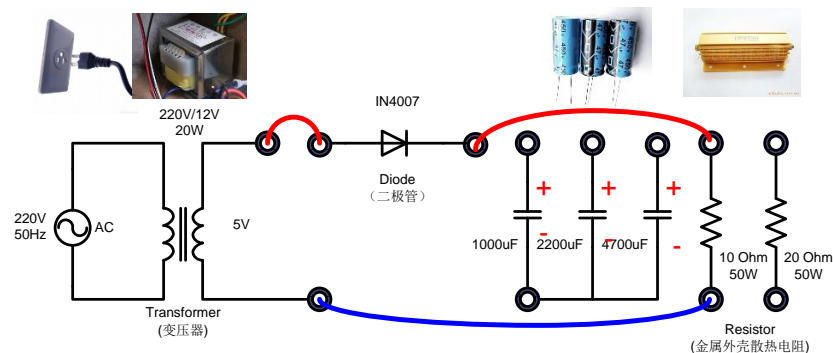

Figure 6: Half-wave rectifier with resistor load
- Connect the half-wave rectifier circuit as shown in Figure 6 on the breadboard.